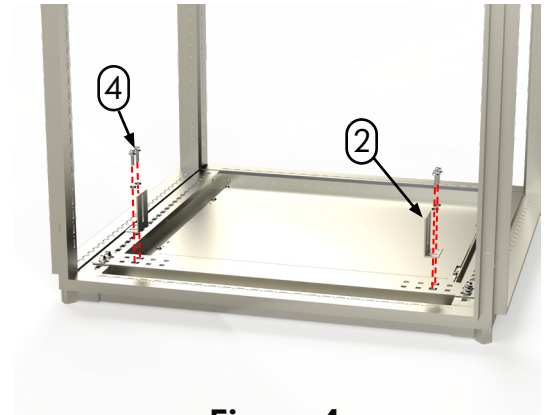

Figure 4
- Secure each bracket to the rail using two M6x16 hex screws (Item 4) and M6 washers (Item 5). See Figure 4.